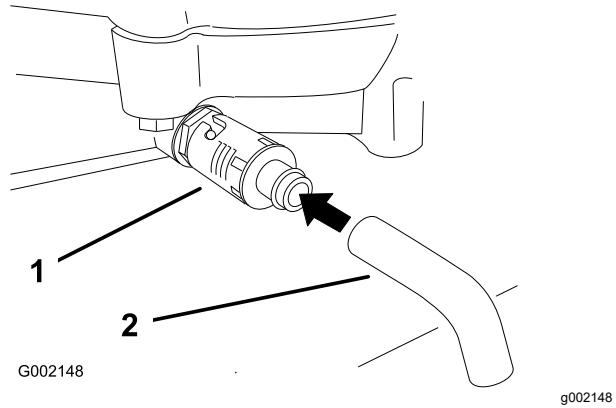

Figure 22
4. Place a pan below the drain. Rotate the oil-drain valve to allow the oil to drain (Figure 22).